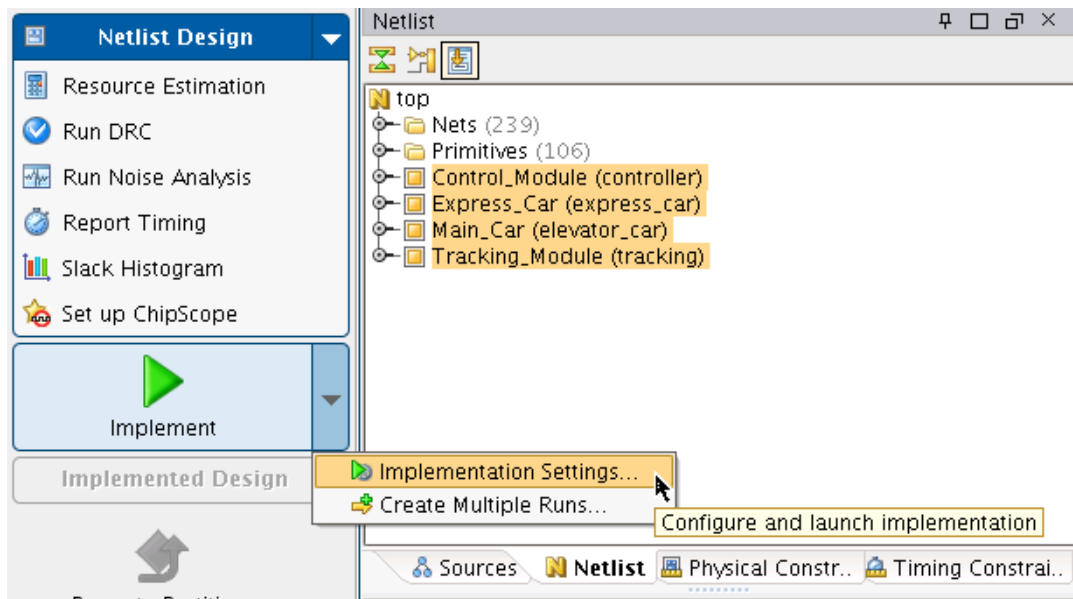

Figure 13: Implementation Settings
5. From the Implement button pull-down, select **Implementation Settings**, as shown in Figure 13.